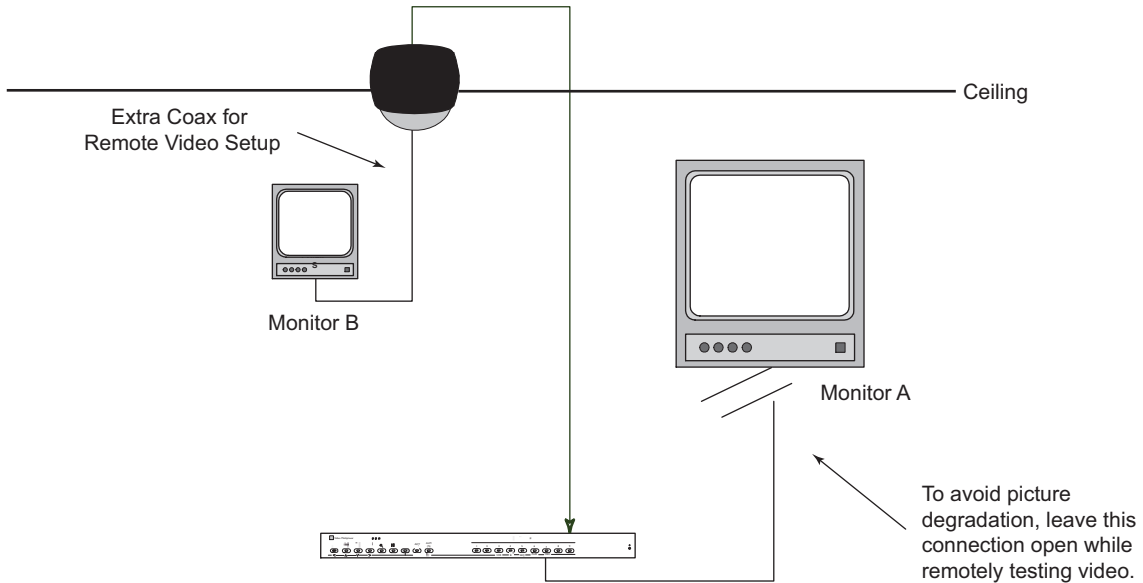

Figure 6a Example of Setup Configuration Using Remote Monitor
1. After the power and video connections are made to the camera and the dome is mounted correctly, connect the setup coax cable with BNC located next to the camera/lens module to the remote monitor. See **Figure 6a** for an example of a simple setup configuration.